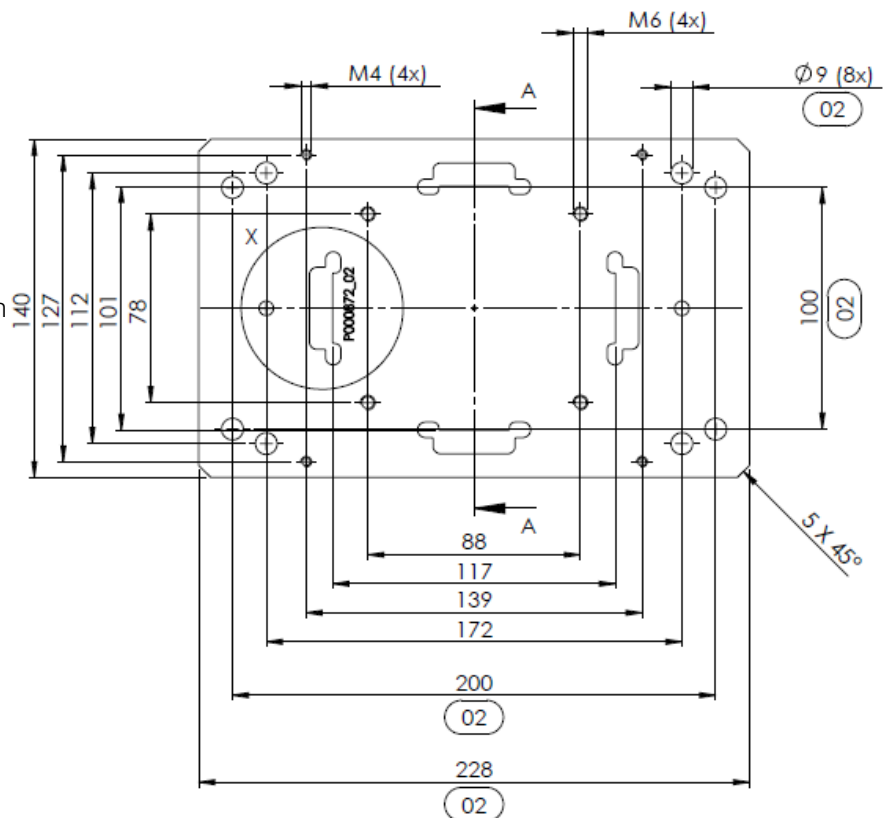

Fig. 5-3: Base plate – Mounting and positioning holes
- Prepare the mounting surface according to the drilling pattern (see Fig. 5-3).